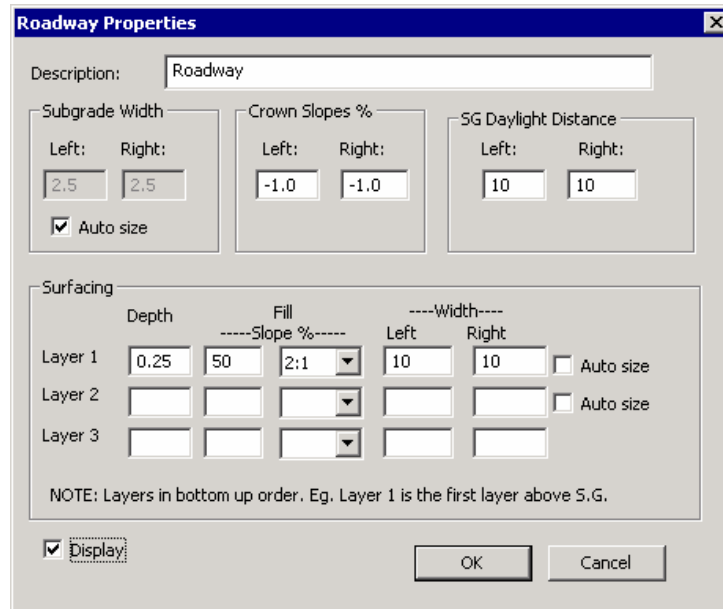

Figure 6.5: Roadway Properties Dialog
- Double click on *Roadway* to activate the Roadway Properties dialog shown in the Figure 6.5